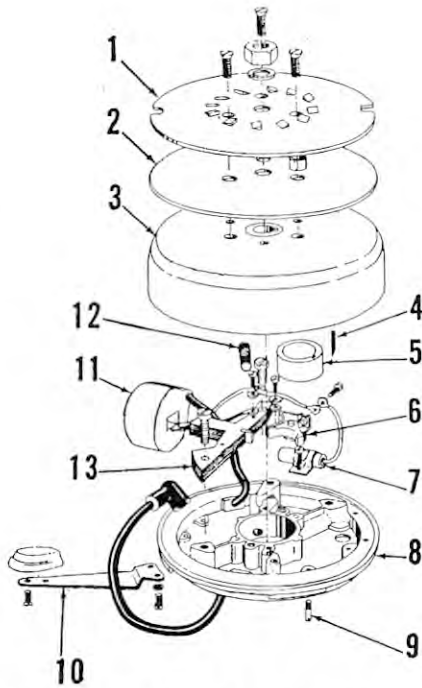

Fig. Mc2 — Exploded view of magneto assembly used on 3.6 horsepower motors.
SPEED CONTROL LINKAGE. The speed control lever (10—Fig. Mc2) moves the magneto armature plate (8) to advance or retard the ignition timing. A synchronizer pin (9) contacts throttle valve lever (14—Fig. Mc1) to control the throttle valve.
angle (A), then tighten nut (N). When adjustment is correct, throttle valve will just begin to open as speed control lever (10—Fig. Mc2) is moved further to the "Fast" position.